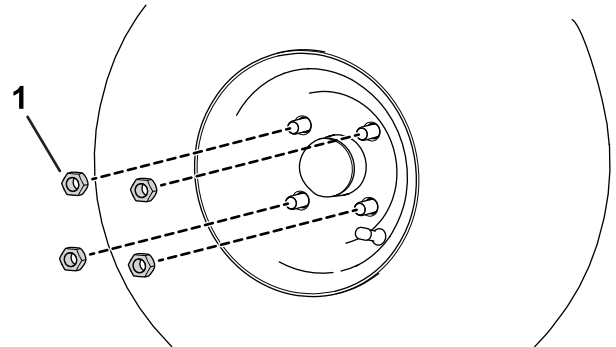

Figure 8
1. Use the previously removed lugnuts to secure the wheel to the hub (Figure 8).